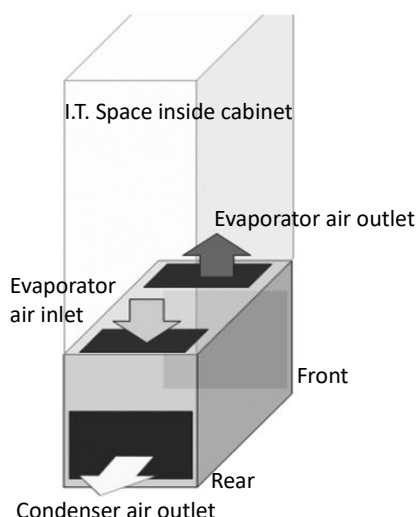

Figure 1-1 VRC unit in cabinet
- The cooling unit is installed at the bottom of the cabinet. The airflow path is depicted in **Figure 1-1**. The hot return air enters the unit from the rear side of the cabinet and the conditioned cold air is supplied from the front of the unit directly in front of the servers.